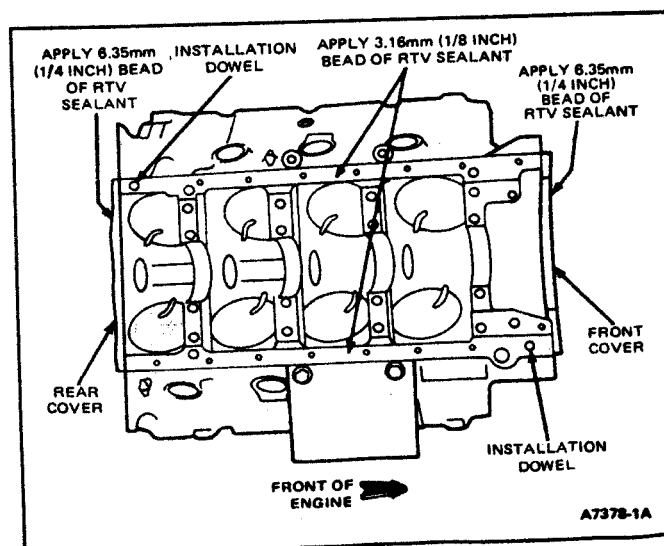

FIG. 63 Applying RTV Sealant and Installation Dowels
8. Install locally fabricated oil pan installation dowels in position (Fig. 63).